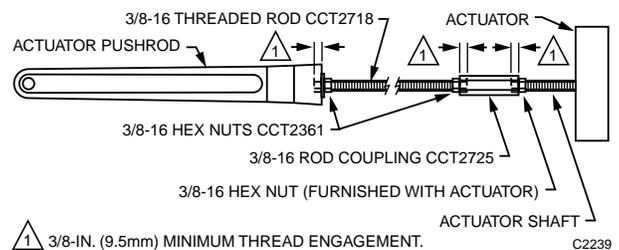

Fig. 17. Assembling Actuator Shaft Extension.
10. Assemble threaded rod, pushrod, coupling, and nuts to form actuator shaft extension (Fig. 17).
- g. Tighten hex nuts on actuator shaft and threaded rod (Fig. 17) to lock rod in place.